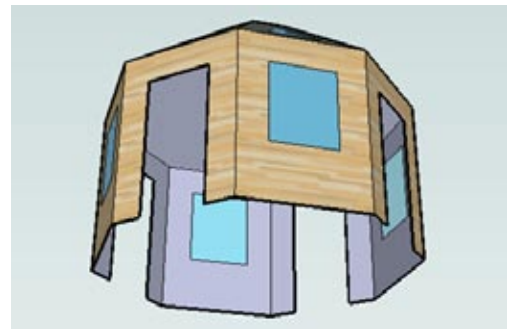

Figure 1-56
19. If any window faces aren't painted correctly, fix them with the Paint tool. Figure 1-56 shows the building viewed from below.